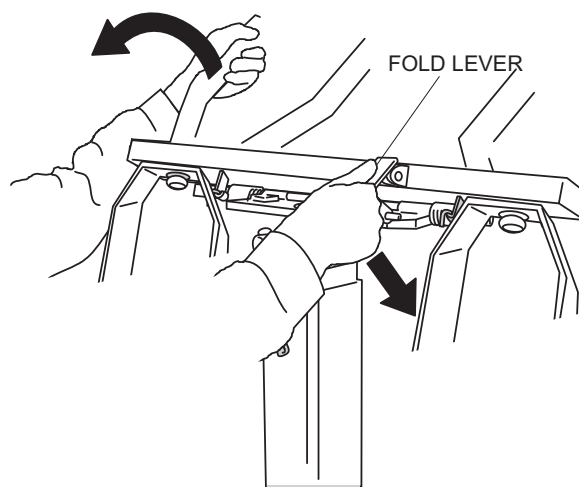

Figure 10. Locking Lamp Stand
2. Push up the lighting unit and push down the fold lever to lock the lamp stand (Figure 10).